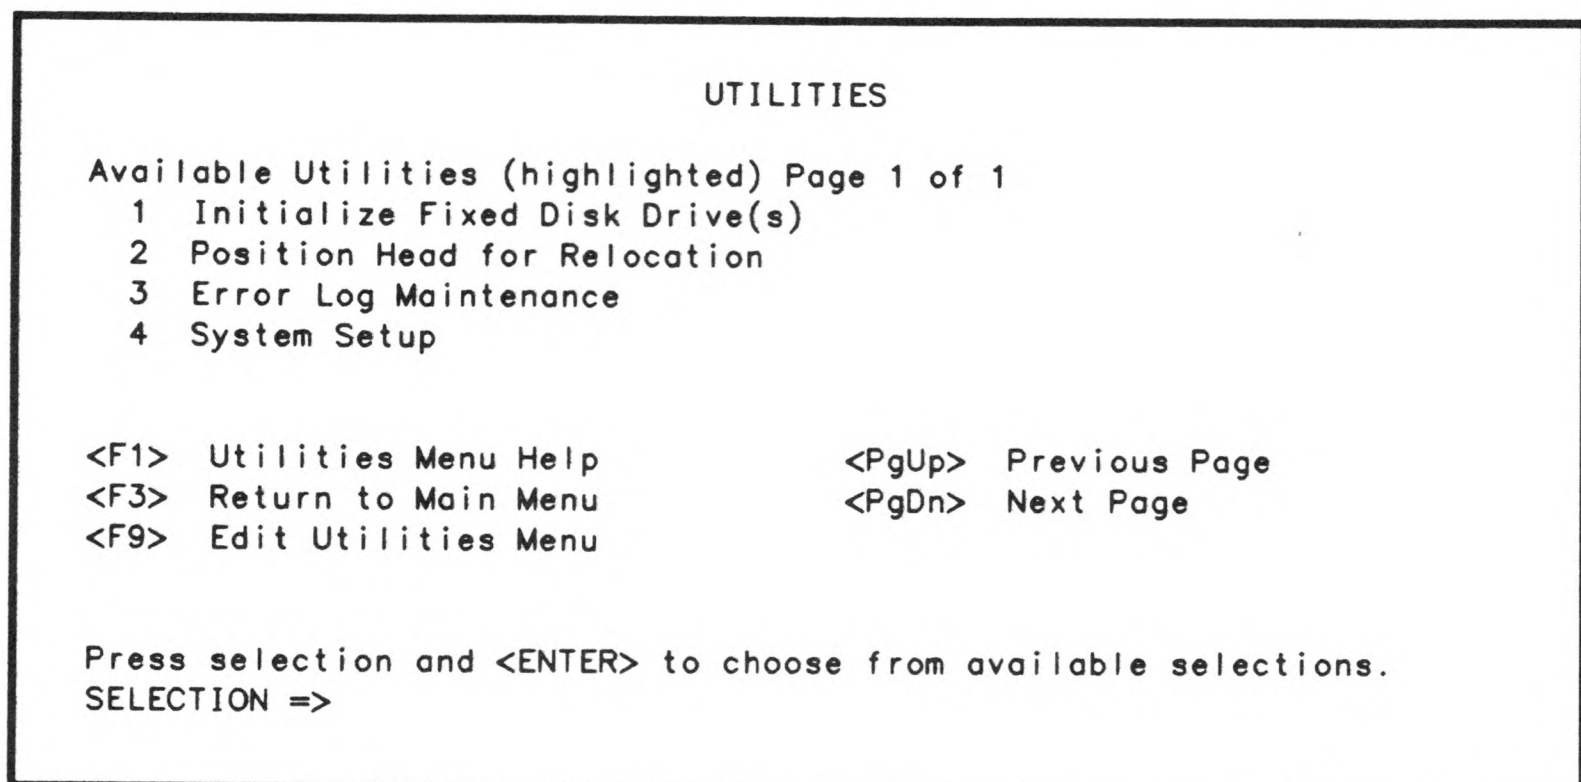

Figure 4-1. Utilities Menu
Step 2 Press <F6>. The utilities menu displays (Figure 4-1).